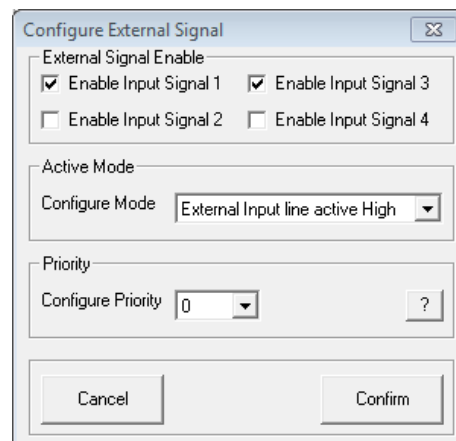

Fig. 38 Window "Configure External Signal"
1) To configure the switching inputs, click the button "Configure" located on the right-hand side of the window (under "Extra Program"). The dialog window "Configure External Signal" (fig. 38) is displayed.